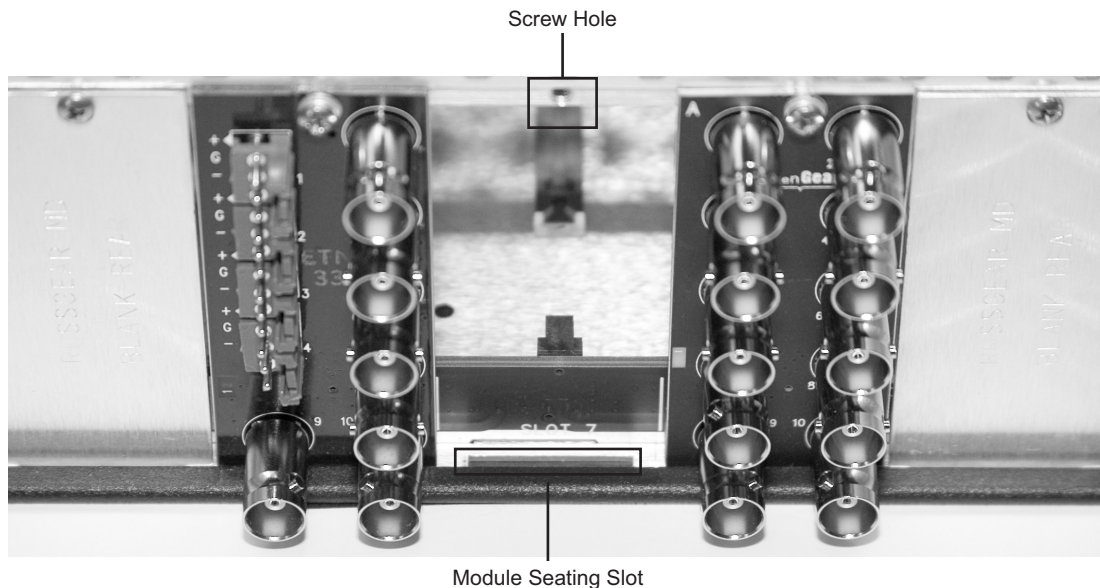

Figure 2.2 Rear Module Installation in a DFR-8310 Series Frame (FSD-8240 not shown)
3. Install the bottom of the Rear Module in the **Module Seating Slot** at the base of the frame's back plane. **Figure 2.2**